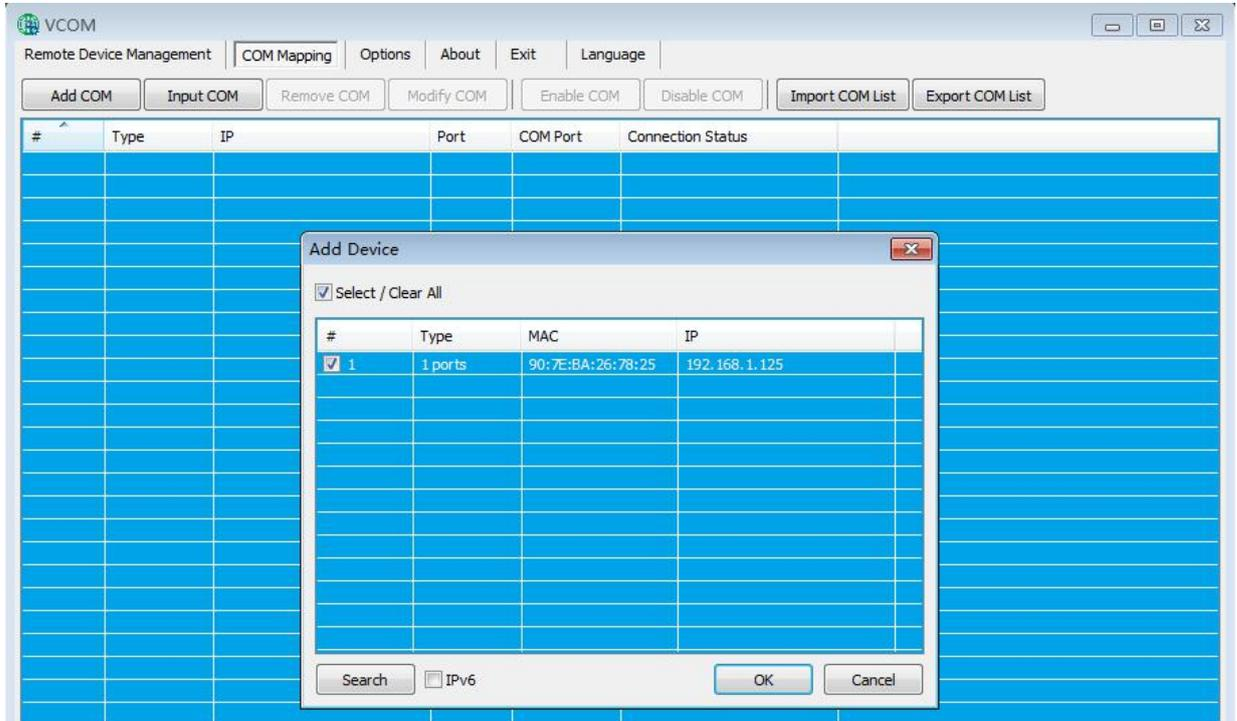

Figure 7
- In the software "VCOM", select Communication Port Mapping - Add Communication Port to bring up the "Add Device" window, Figure 7 below